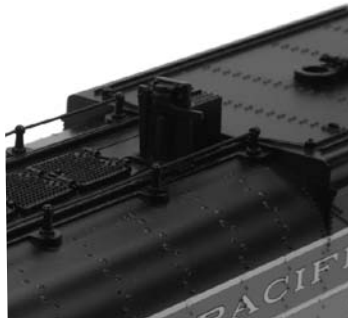

Figure 4: 2-rail / 3-rail switch
2. Change the power input from 3-Rail to 2-Rail as seen in figure 4 (*above*).